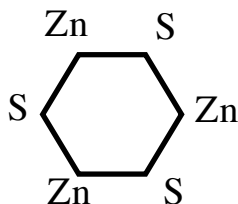

Fig. 1 Sulfer and zinc hexagon.
1. Connect three silver zinc ions to three yellow sulfide ions forming a hexagon. (Fig. 1)